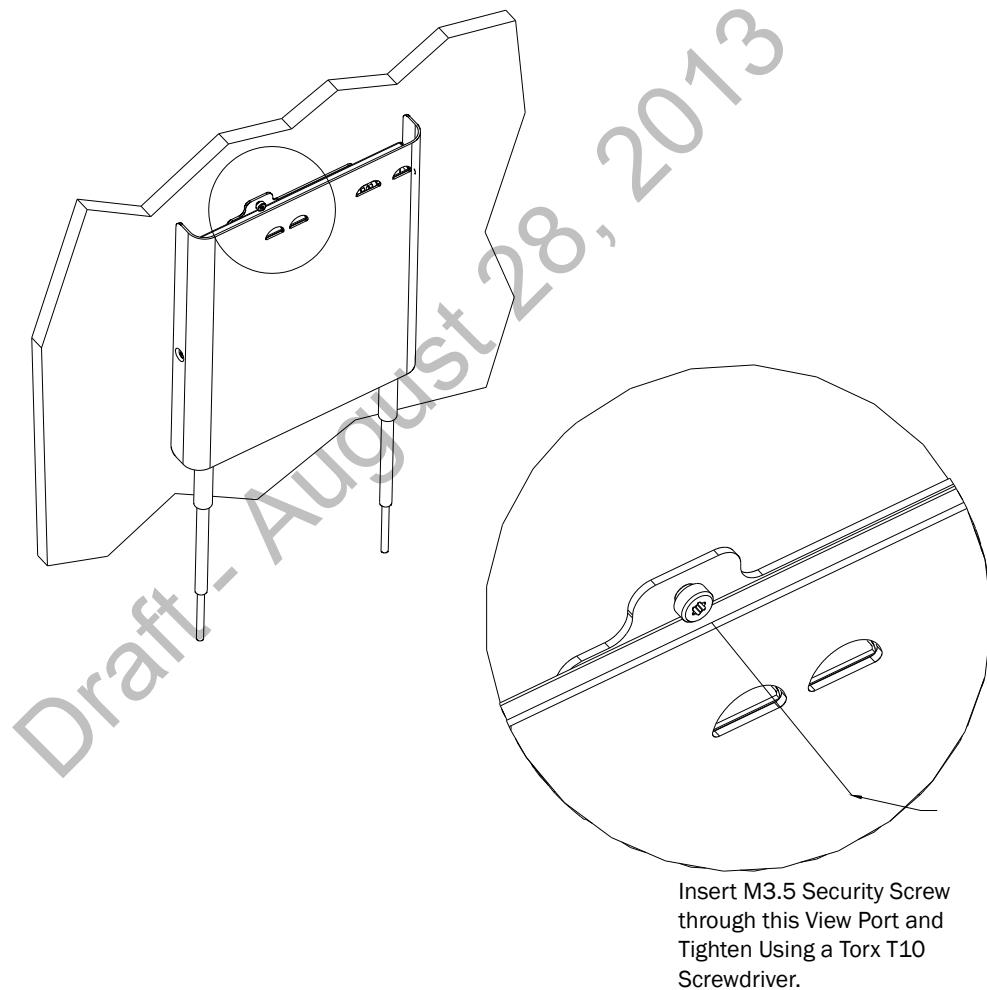

Figure 2-5: Securing the Core AP to its Quick Release Wall Plate
6. Using a Torx T10 screw driver, secure the Core AP to the wall plate by screwing the supplied M3.5 X 0.6 T-10 Torx Head security screw into the PEM nut in the wall plate as shown in Figure 2-5. Torque-tighten the screw to 10-inch lbs. Note that this safety screw is used to prevent the Core AP from sliding out of the wall plate.